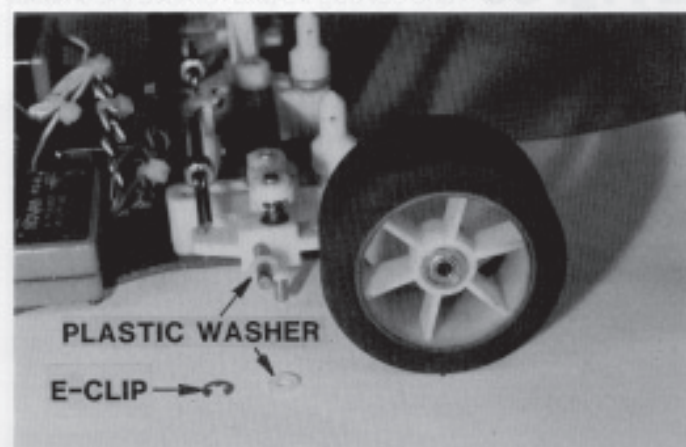

Fig. 58
**Figs. 58 & 59** Back in bag #1 you will find two small #4187 nylon axle washers. Slide one onto the right front axle then install the wheel with bearings onto the same axle. Secure the wheel with a #6299 1/8" E-clip. Now go back and do the left front wheel assembly.